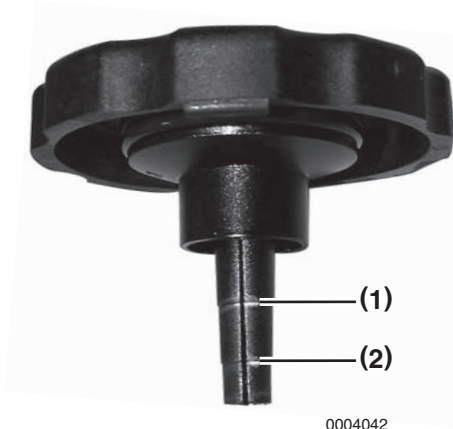

Figure 6
2. Power steering fluid level must be between the upper (**Figure 6, (1)**) and lower (**Figure 6, (2)**) level marks.